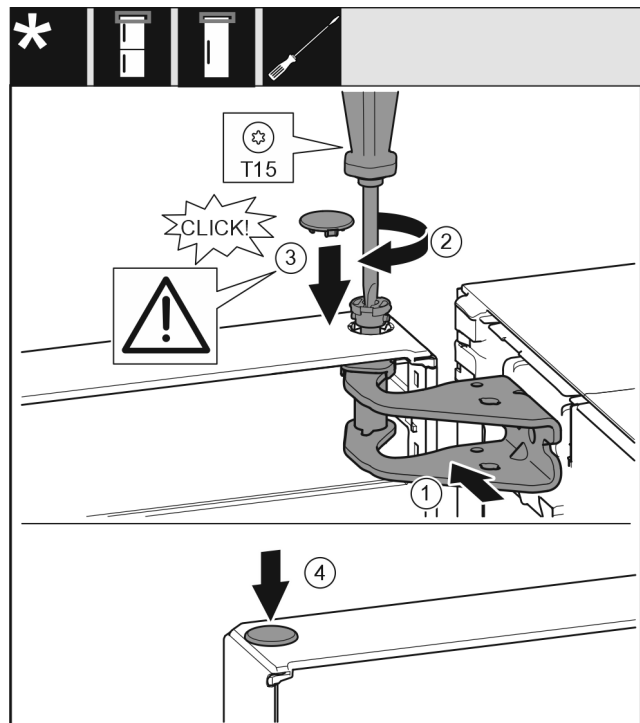

Fig. 21
- Align the top of the door with opening in the bearing bracket. Fig. 21 (1)
- Insert the bolt and tighten with a T15 screwdriver. Fig. 21 (2)
- Fit the protective cover to protect the door: Insert the protective cover and check that it is flush to the door. If not, insert the bolt fully. *Fig. 21 (3)*
- Insert the plugs. *Fig. 21 (4)*